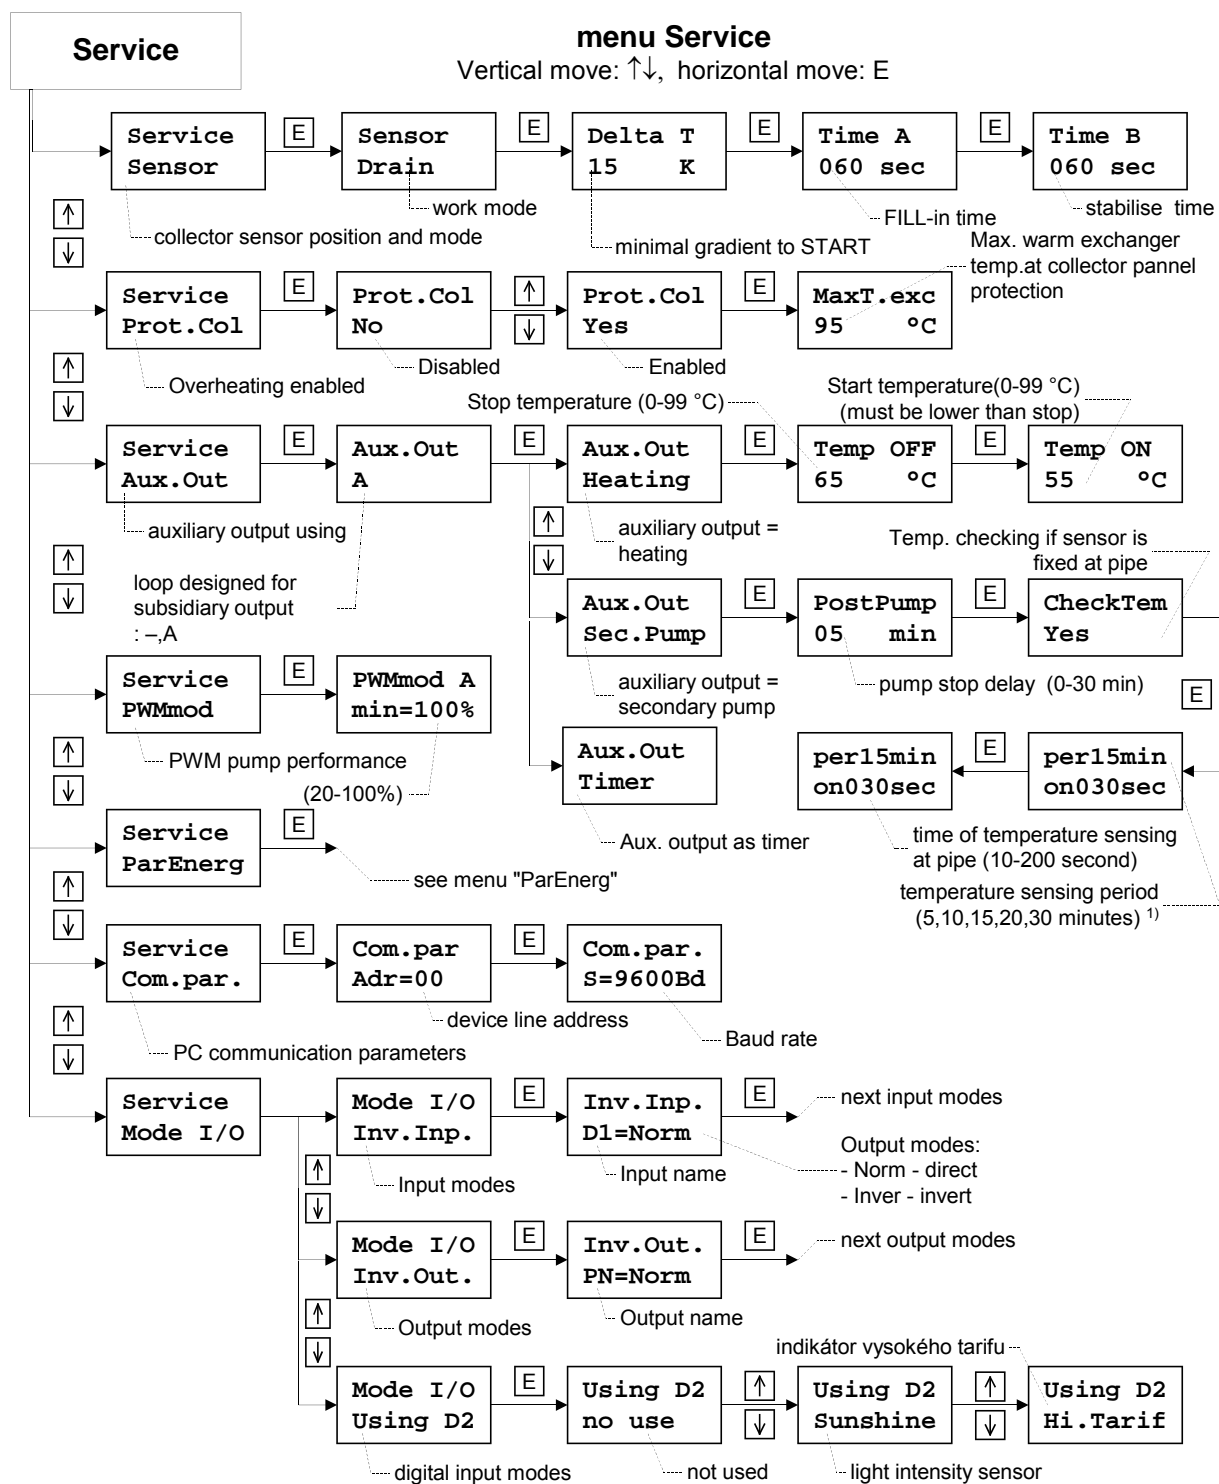

Fig.9 Menu Service
- ◆ **Time** time setting. First is set summer (S) / winter (W) time then hours and minutes in the end. Choosing summer or winter involves time the hours are set up automatically.
- ◆ **Records** day gained energy records (see Fig.9)